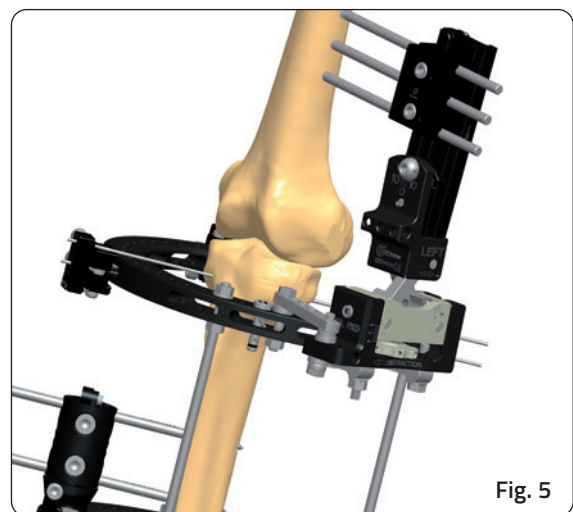

Fig. 5
- Remove the wires and wire guides. Insert the screws after drilling with 4.8mm drill guide and drill bit (Fig. 5).